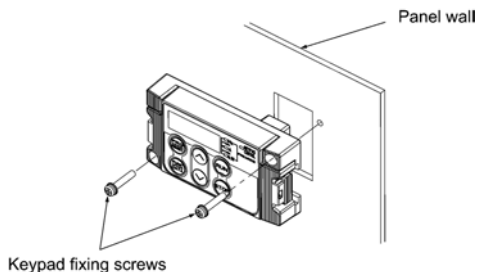

Figure 2.27 Mounting a Keypad on the Panel Wall
- ③ Make a cut-out in the panel wall. For details, refer to Chapter 8, Section 8.4.2 "Standard keypad."
- ④ To mount the keypad on the panel, fix it firmly using a pair of M3 screws put through the taps shown below. (Figure 2.27.)